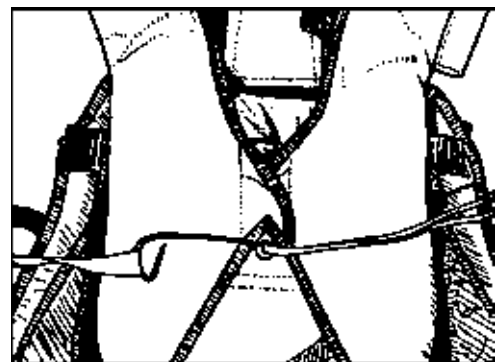

Figure 13
Step 25 Close flaps #1 and #2 in sequence and lock with the temp pin. Use the closing plate to apply pressure on the flaps as you pull the loop through. You should be able to pull approximately 1/2" - 3/4" of the loop through the first two flaps. If you can pull more, the loop is too long. Open the container and adjust the loop. *Figure 13*